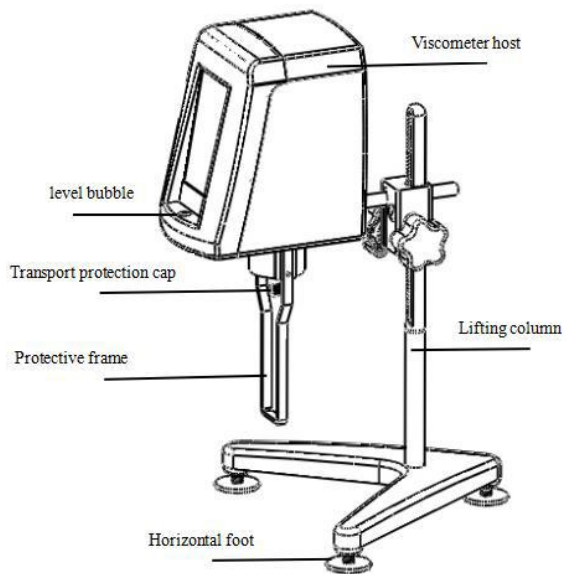

Fig. 2
5. Connect the instrument to the power supply, and the assembled shaped is shown as Fig. 2.